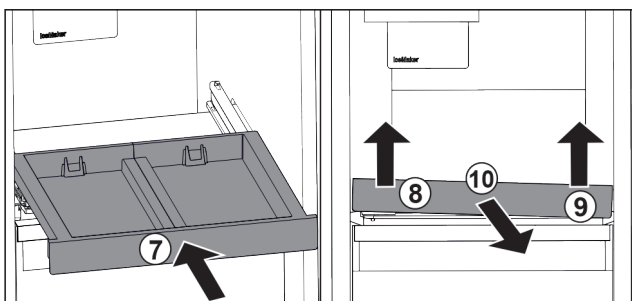

Fig. 95
- ▶ Slide in the pull-out board. *Fig. 95 (7)*
- ▶ Lift the pull-out board at the front left. *Fig. 95 (8)*
- ▶ Lift the pull-out board at the front right. *Fig. 95 (9)*
- ▶ Take out the pull-out board to the front. *Fig. 95 (10)*